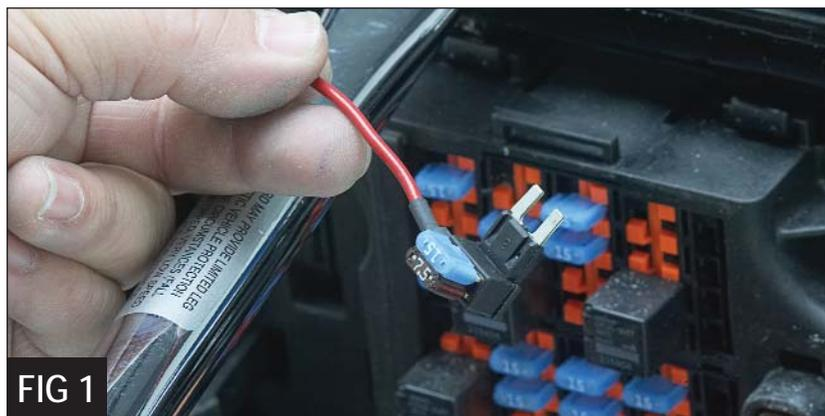
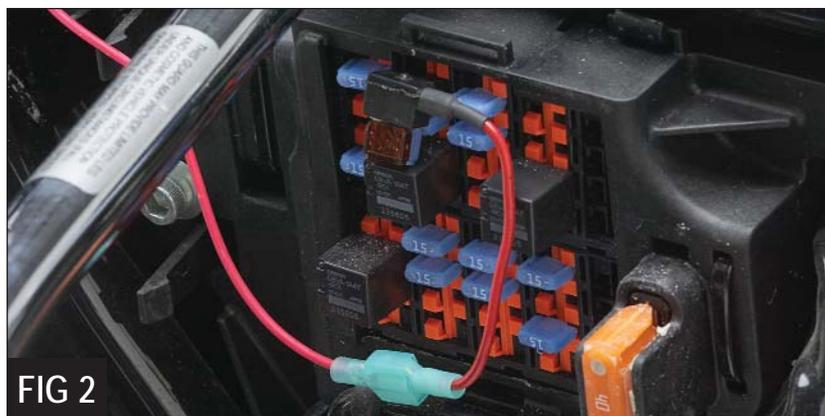

FIG 1
FIG 2
4. The fuse box is located on the left side of your motorcycle under the side cover. Open the fuse box cover and locate Accessories fuse. Remove the Accessory fuse (check inside of fuse box cover or owners manual for it's location). Insert it into the open slot in the fuse adapter (*Figure 1*), then return it to the original accessory fuse slot in the fuse box (*Figure 2*).